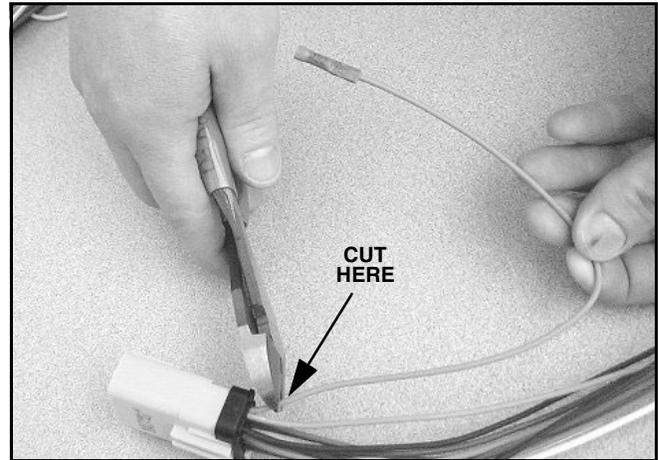

Figure 5
4. Remove the loose gray wire from adapter by cutting wire just behind the male green plug (See Figure 5.).